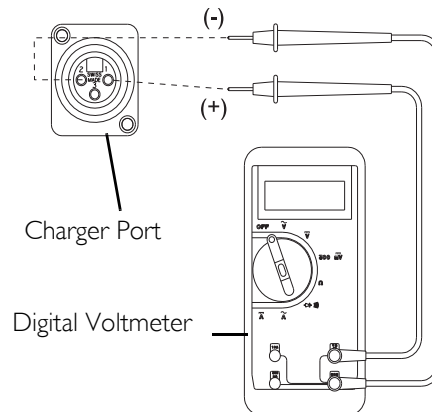

FIGURE 3.1 Field Load Test
NOTE: For this procedure, refer to FIGURE 3.1.
4. Connect the voltmeter leads to the charger port on the wheelchair as shown in FIGURE 3.1.